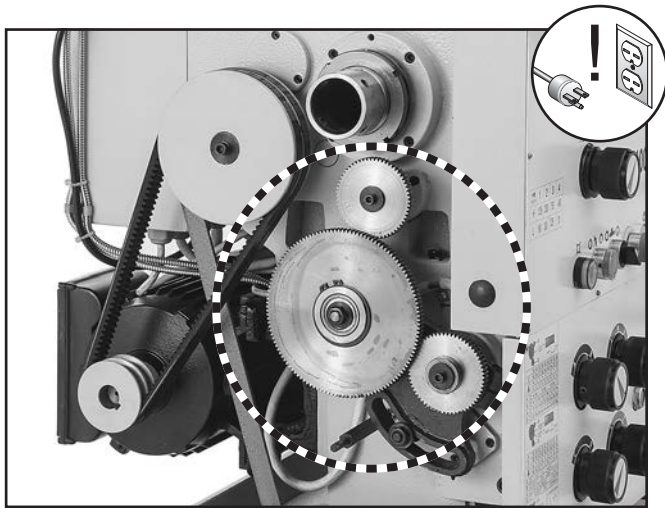

Figure 116. End gears.
The end gears, shown in **Figure 116**, should always have a thin coat of heavy grease to minimize corrosion, noise, and wear. Wipe away excess grease that could be thrown onto the V-belts and reduce optimal power transmission from the motor.
2. Remove end gear cover and all end gears shown in **Figure 116**.